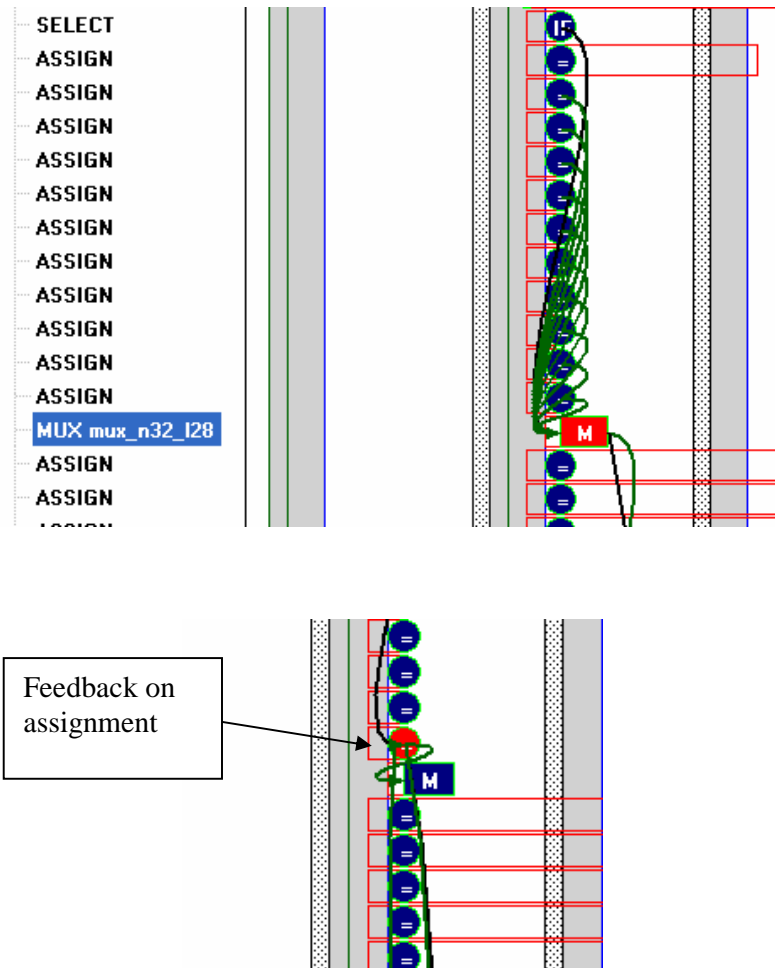

Figure 18 Feedback Dependency Chain
- ✓ Search in the schedule of the first solution for the operator listed in the error message, in this case “mux\_n32\_l28”. This is done using the “Find” icon in the design bar. You will see the feedback data dependency by tracing the assignments driving the mux (Figure 18).